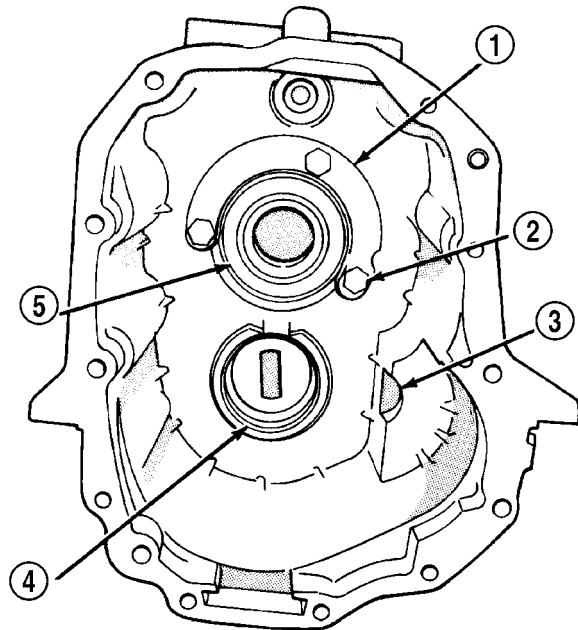

Fig. 101 ADAPTER HOUSING - 4WD
(1) Install rear bearing in adapter housing, by tapping it into place with a wood hammer handle or wood dowel.
(2) Position rear bearing retainer in adapter housing (Fig. 101).